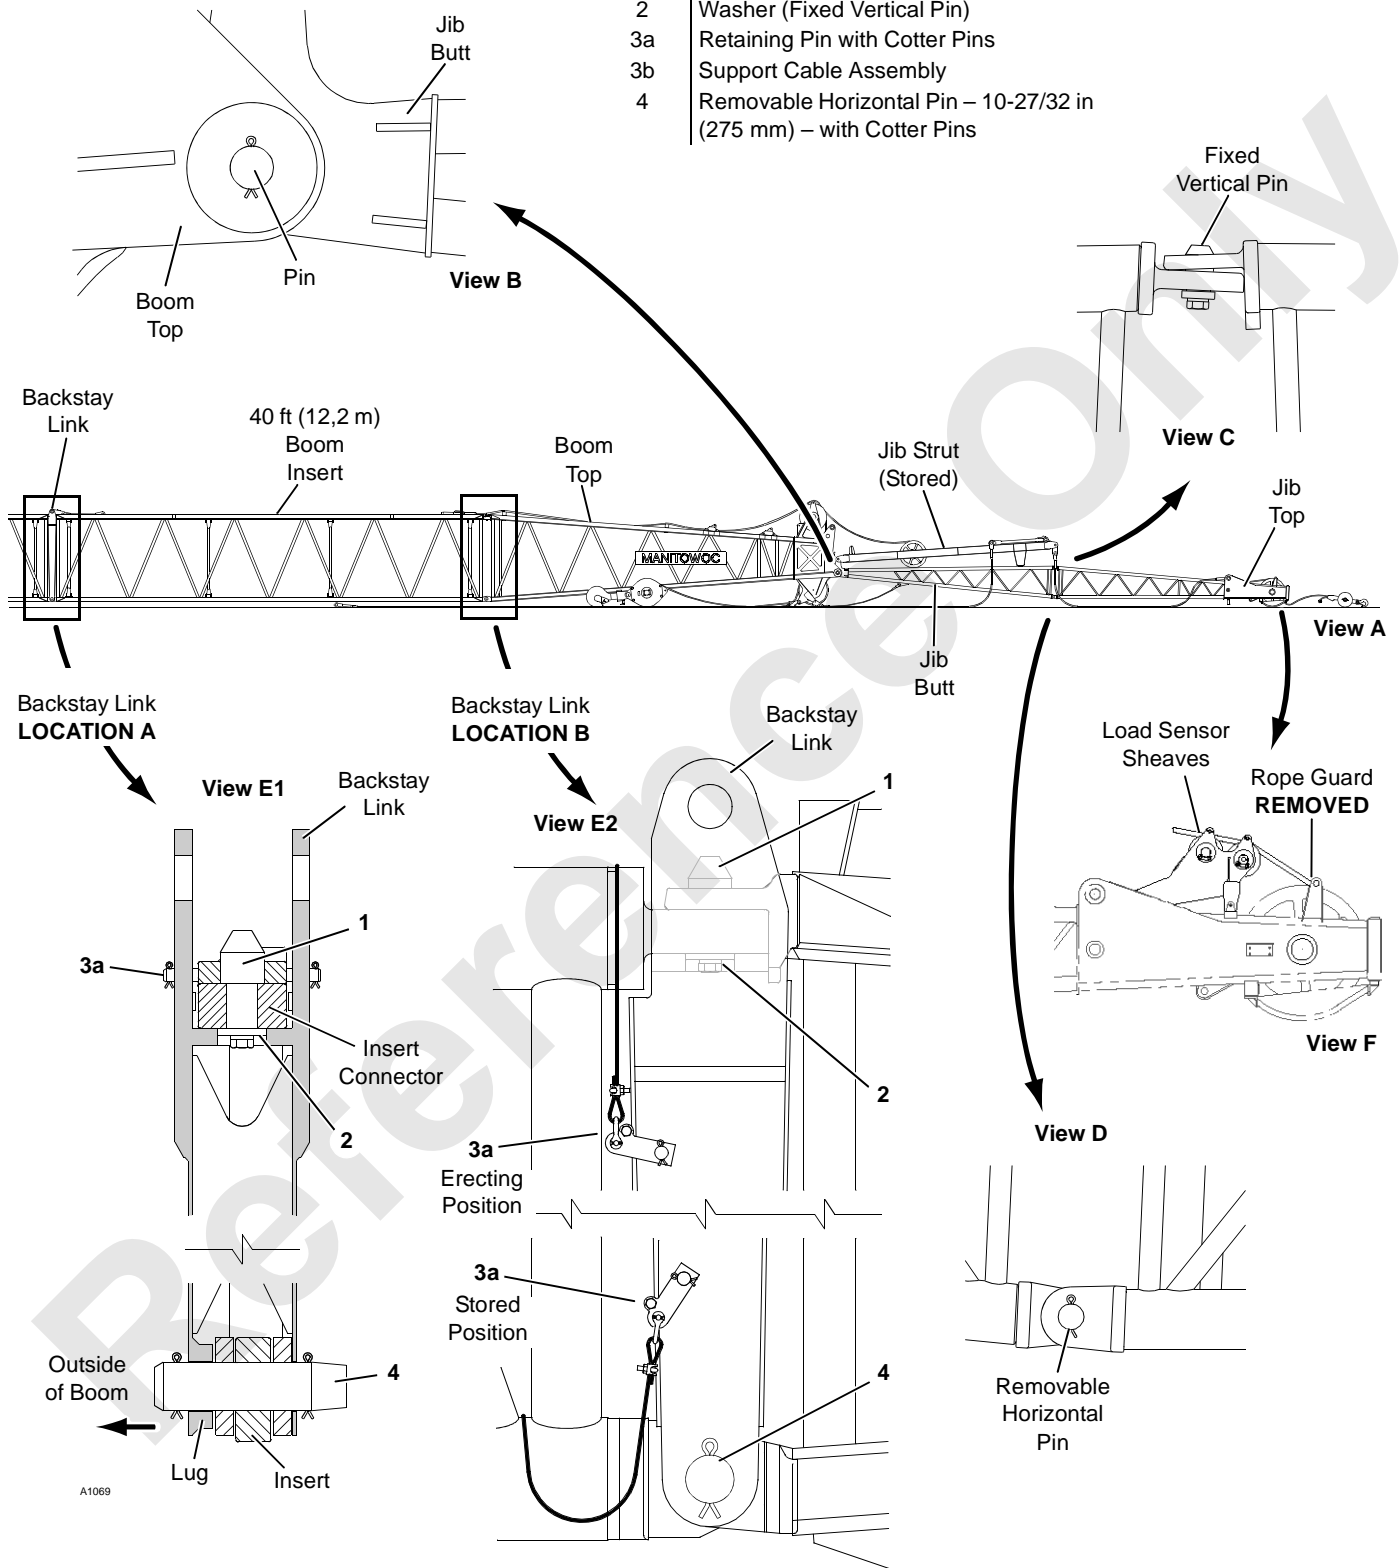

FIGURE 4-52
5. For heavy lift top only, install jib backstay links between boom sections at Location A or B, Figure 4-52. **See Jib Assembly Drawing for proper mounting location.**
Lug at bottom connecting holes in link must be toward outside of boom. (Figure 4-52, View E1).
- c. Lift backstay link upward and engage hole in link with washer (2, Figure 4-52, View E1) on underside of insert connector.
- d. For Location A, install retaining pin (3a, Figure 4-52, View E1) through holes on butt side of link to prevent link from falling off insert.
For Location B, move support cable assembly (3b, Figure 4-52, View E2) from stored position to erecting position to prevent link from falling off insert. If necessary, adjust cable length so bottom connecting holes are aligned when assist crane is disconnected.
Replace standard horizontal connecting pins with 10-27/32 in (275 mm) long pins (4, Figure 4-52, View E) supplied with backstay links.
NOTE: The jib strut is shipped in the stored position on the jib butt (Figure 4-52, View A).
2. Align holes in jib butt with holes in boom top and install connecting pins (Figure 4-52, View B).
- The top connectors are joined by fixed vertical pins that hook into holes in the adjacent section (Figure 4-52, View C).
- The bottom connectors are joined by removable horizontal pins (Figure 4-52, View D).